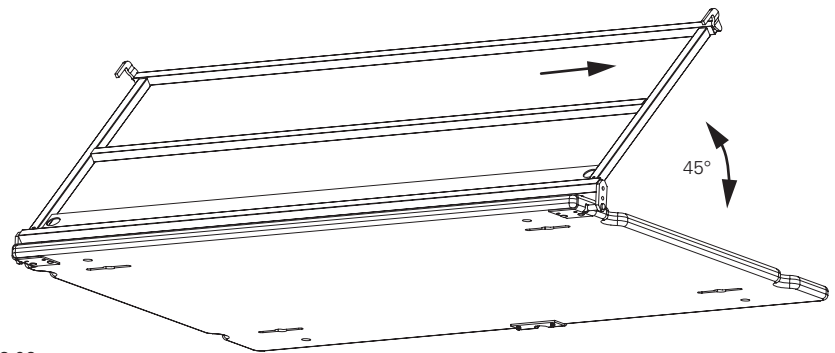

Fig. A3.06
1. Place the guardrail in a 45° position, loosen locking bolt (3.4) (SW 19), and push guardrail to the right as seen from the outside. (Fig. A3.06)